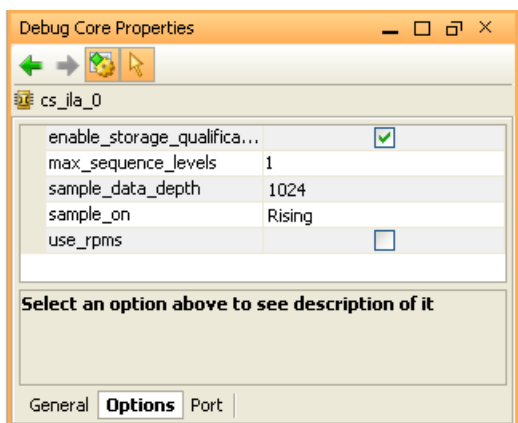

Figure 12-9: Debug Core Parameters
2. In the Debug Core Properties tab, select **Options** to configure the core parameters as shown in Figure 12-9, page 378.